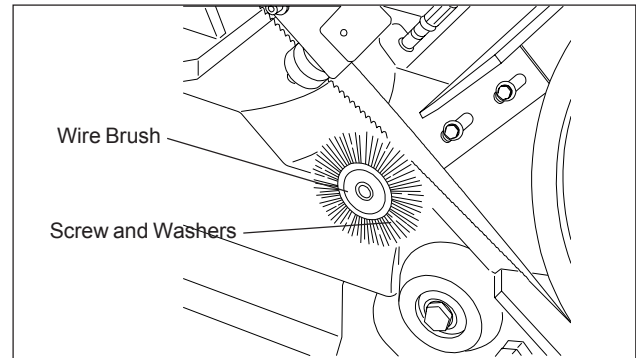

Figure 21: Wire Brush
2. Remove four screws and the coolant sump cover from the machine base (refer to Figure 21).
Observe the following when connecting to the power source. (The cut-off saw wiring diagrams are provided in Figures 21 and 22.)